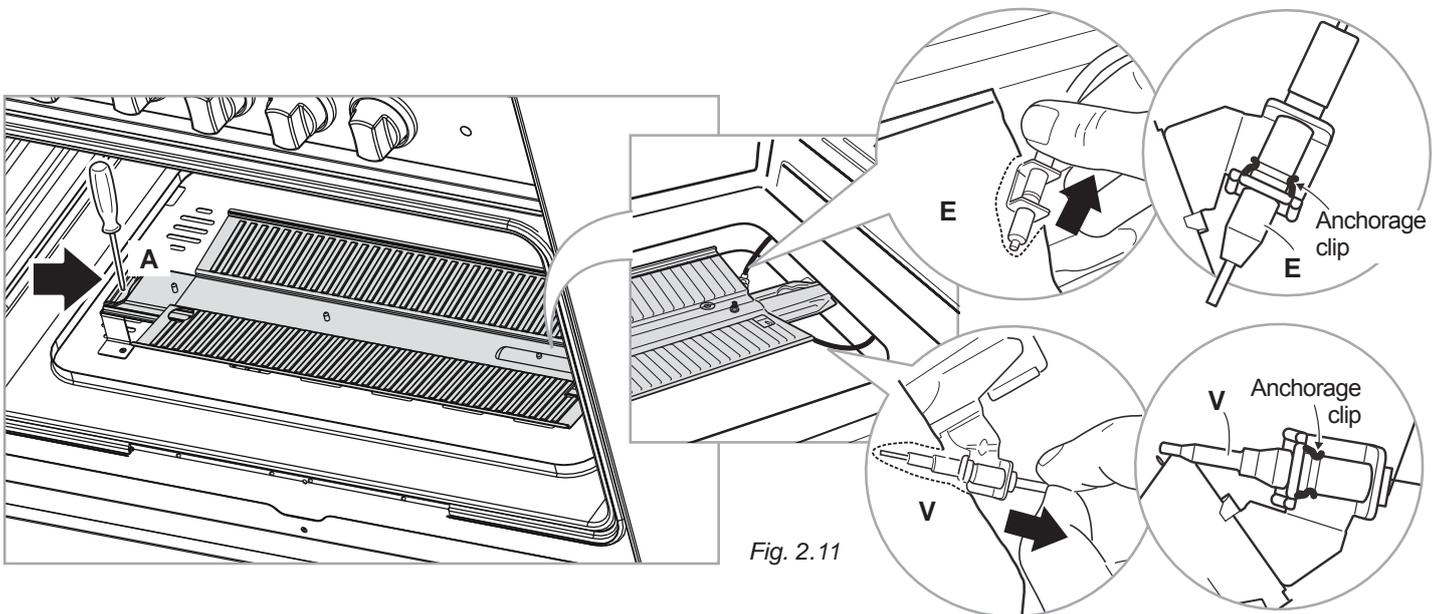

Fig. 2.11
- Gently unlock, from the burner, the safety valve probe "V" and the ignition electrode "E" (as indicated in fig. 2.11). Take care not to damage the probe and the ignition electrode.
- Unscrew and remove the burner securing screws "A" (fig. 2.11).
IMPORTANT: Pay special attention to replace correctly the safety valve probe "V" and the ignition electrode "E" as per figure 2.11. Check the correct operation of the safety valve and the ignition electrode.